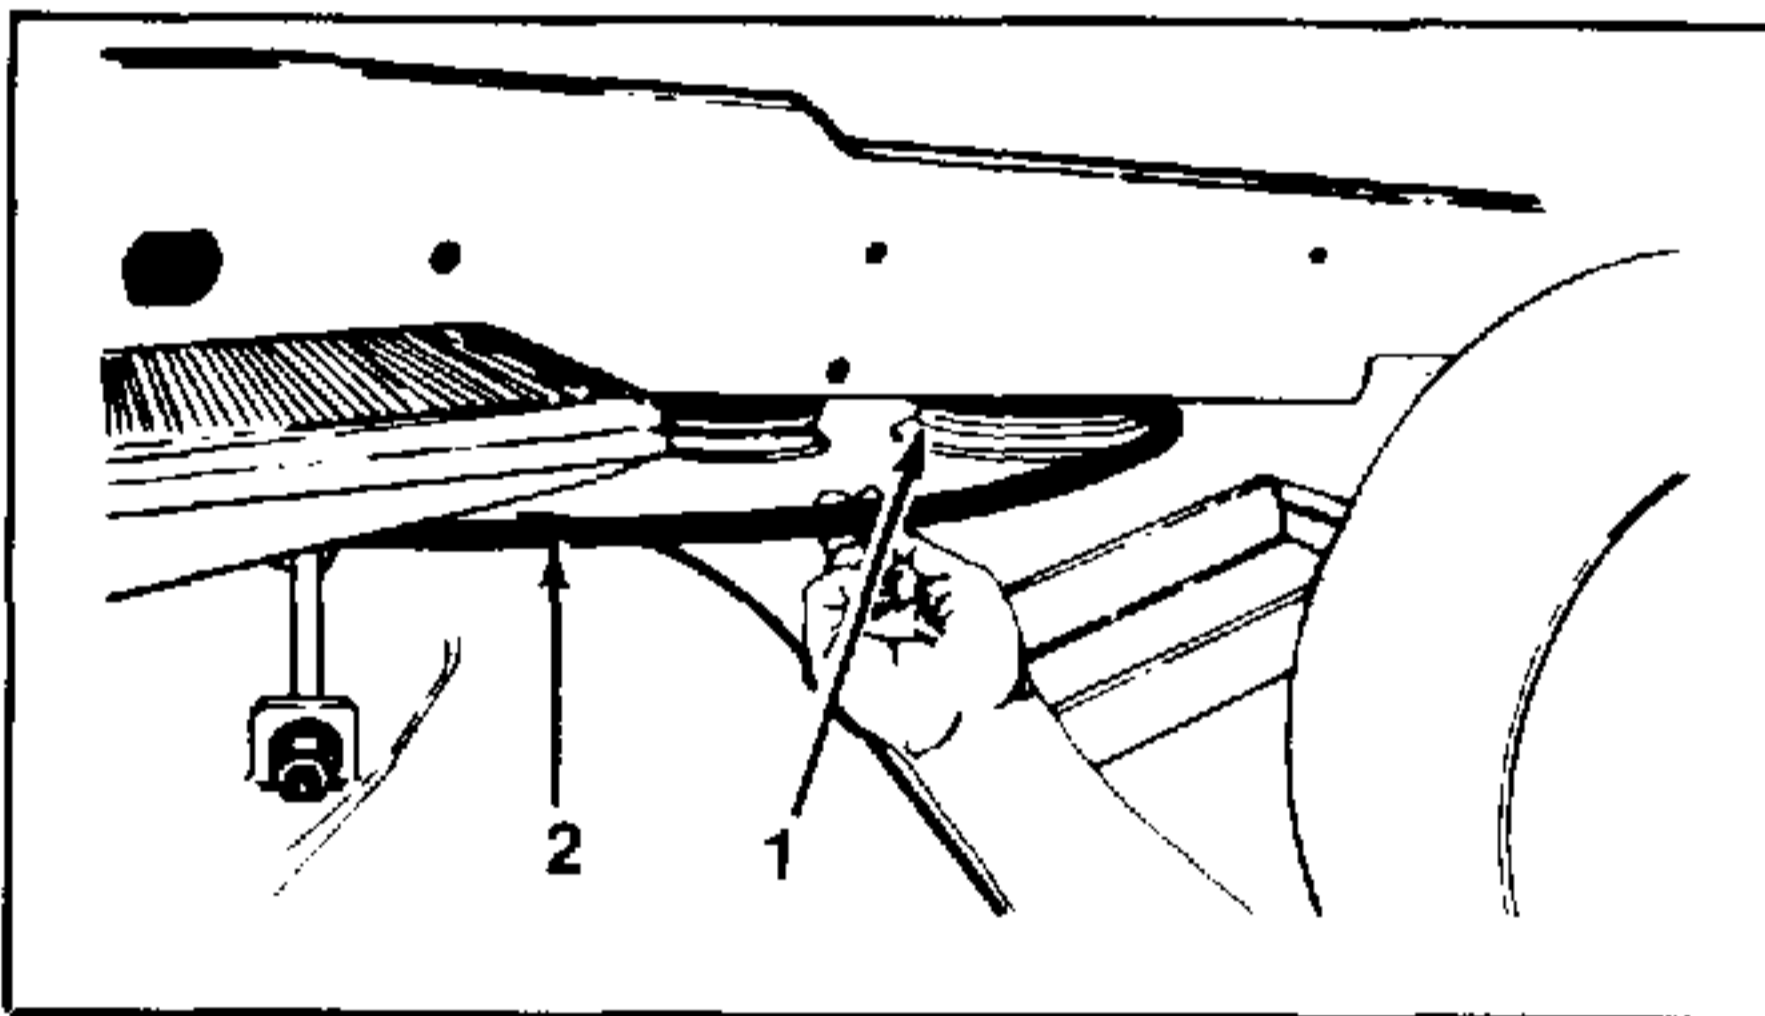

FIGURE 15.
13. Slip drive belt electric PTO pulley on tractor. Refer to figure 15.